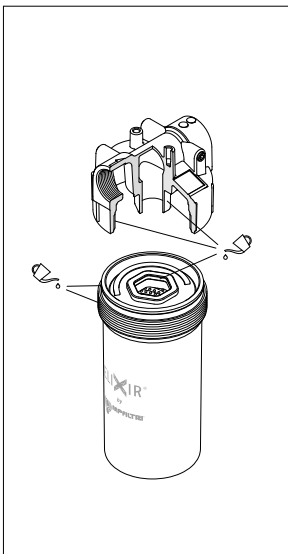

fig. 14
- (Fig. 14) Lubricate with the operating fluid the filter housing tap, the filter element and bowl seals, and the threads of head cavity and bowl